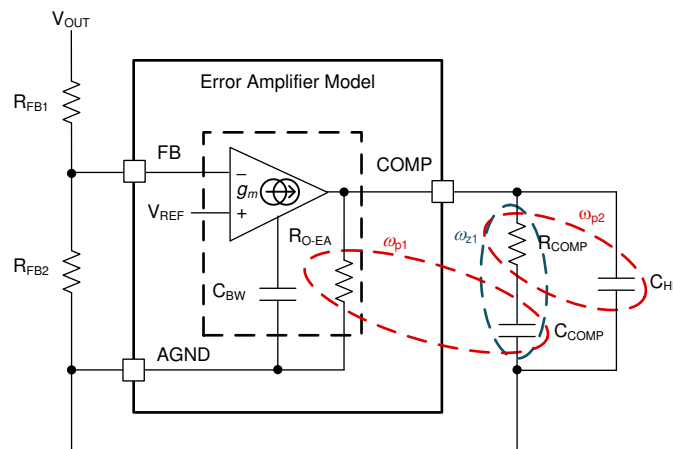

图 9-3. Error Amplifier and Compensation Network
图 9-3 shows a type-II compensator using a transconductance error amplifier (EA). The dominant pole of the EA open-loop gain is set by the EA output resistance, $R_{\text{O-EA}}$, and effective bandwidth-limiting capacitance, C_{BW} , as shown by 方程式 25.